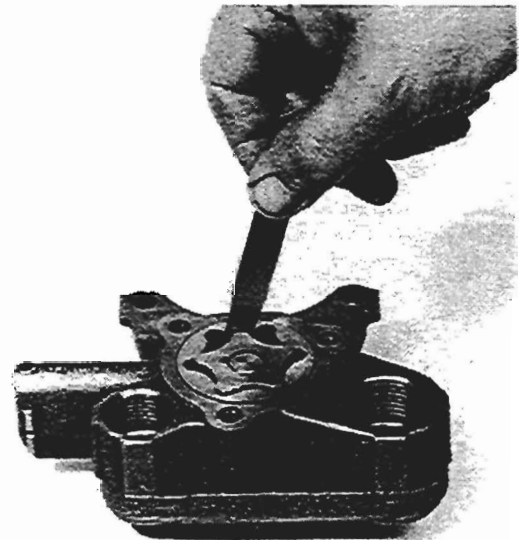

Fig. M9
2. Install outer rotor in pump body. Ensure edge of rotor with chamfer is to the inside of the pump body. Check clearance between maximum diameter of inner rotor and minimum diameter of outer rotor at all positions (see fig. M9).